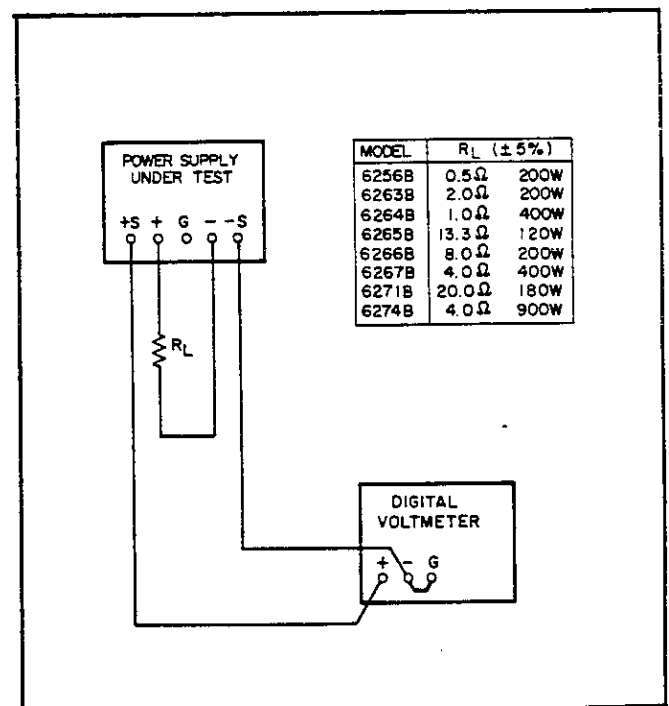

Figure 5-1. Constant-Voltage Load Regulation Test Setup
- Connect load resistor (R_L) indicated in Figure 5-1 across output terminals of supply.
- Connect test setup shown in Figure 5-1.
- a. Connect test setup shown in Figure 5-1.
- Connect load resistance and digital voltmeter as illustrated in Figure 5-1.